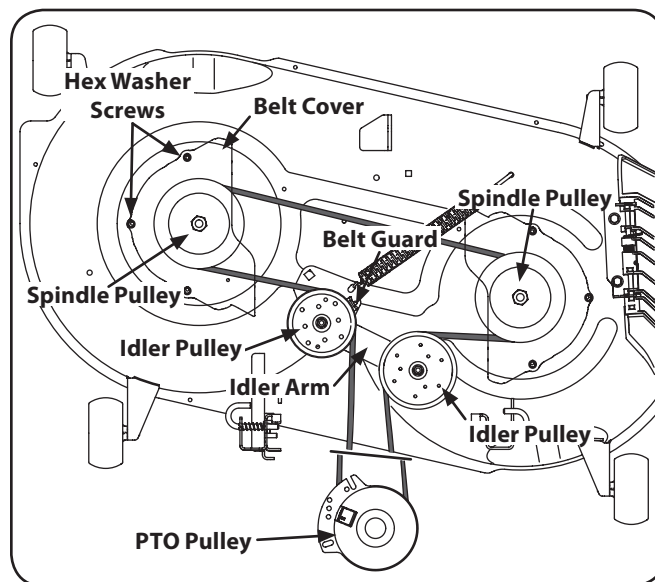

Figure 7-9
- Remove the hex washer screws securing the belt covers to the deck. See Figure 7-9.
- Install the new belt around the spindle pulleys as shown and reinstall the belt covers. See Figure 7-9.